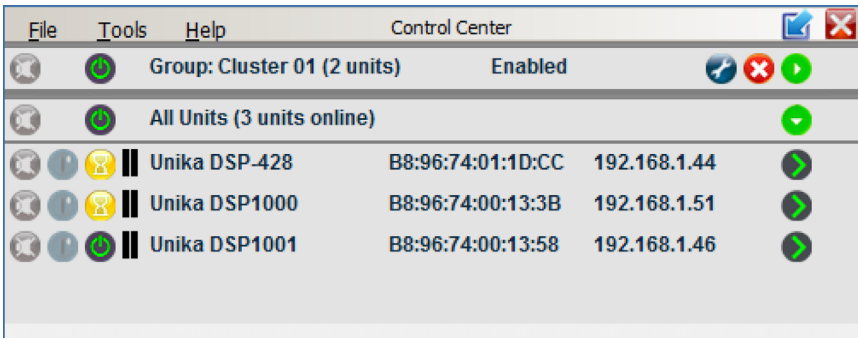

Figure 1: DSPControl network panel
- The Windows Unika DSPControl Network window is shown in Figure 1: DSPControl network panel. During installation your firewall setting are configured to allow communication over the network.
- Switch on the DSP and launch the DSPControl software. It will show the devices found on the network together with their mac address and IP address, similar to Figure 1.